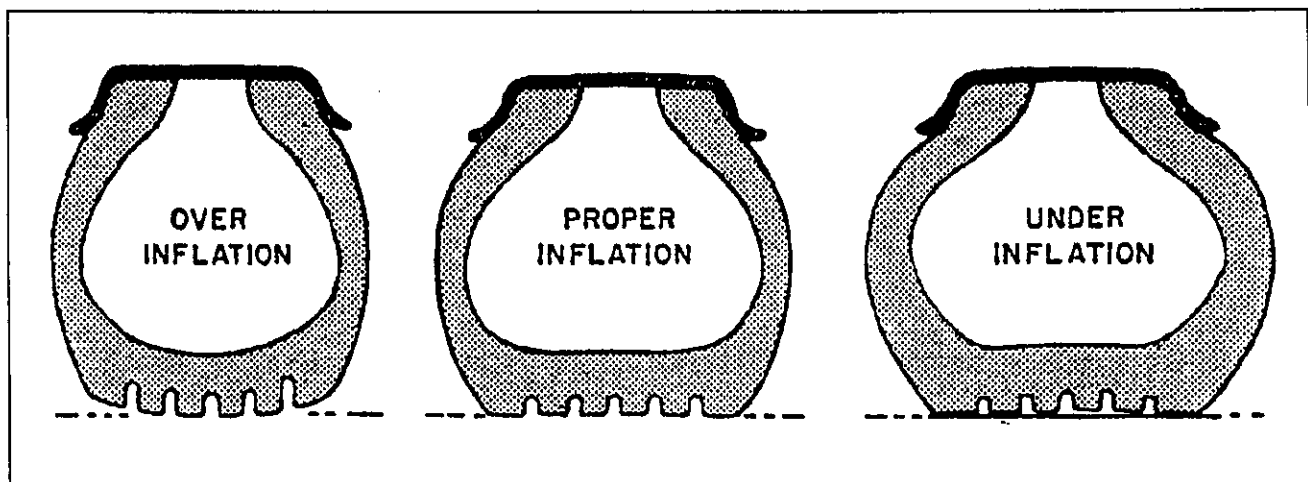

Fig. 4-16 Tire Inflation Examples
**4-12.1 Tire Inflation.** Tire inflation will cause tire to ground contact characteristics as shown in **Figure 4-16**. Tire inflation should be checked daily while the tire is cold, and during road stops. Checking the tire pressures while tires are hot will give a faulty increased pressure reading. Adjusting tire air pressure to the specified amount while tires are hot will produce improper tire to road contact and thus abnormal wear. Do not exceed cold inflation pressure listed on the semitrailer VIN plate located on the front of the semitrailer. Exceeding cold inflation pressure will result in damaged tire bodies, rims, and wheels. Replace all valve stem caps when pressure checking/adjusting has been completed. remove any foreign objects from between duals.